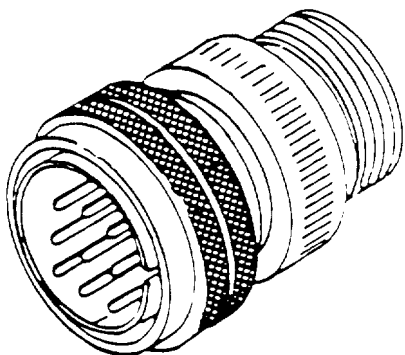

Figure 6. Typical Plug
10. **PLUG ASSEMBLY.** The plug assembly (Figure 6) is the removable part of the connector system that mates with the receptacle, and is usually attached to a cable. A plug consists of an insulator insert, contacts, shell, and coupling mechanism. The contacts, whether pin or socket, do not alter the terminology of the plug.